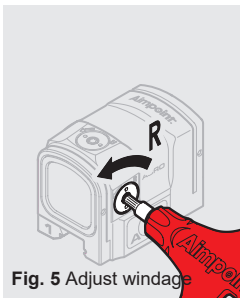

Fig. 5 Adjust windage
- c Adjust windage (see Fig. 5):